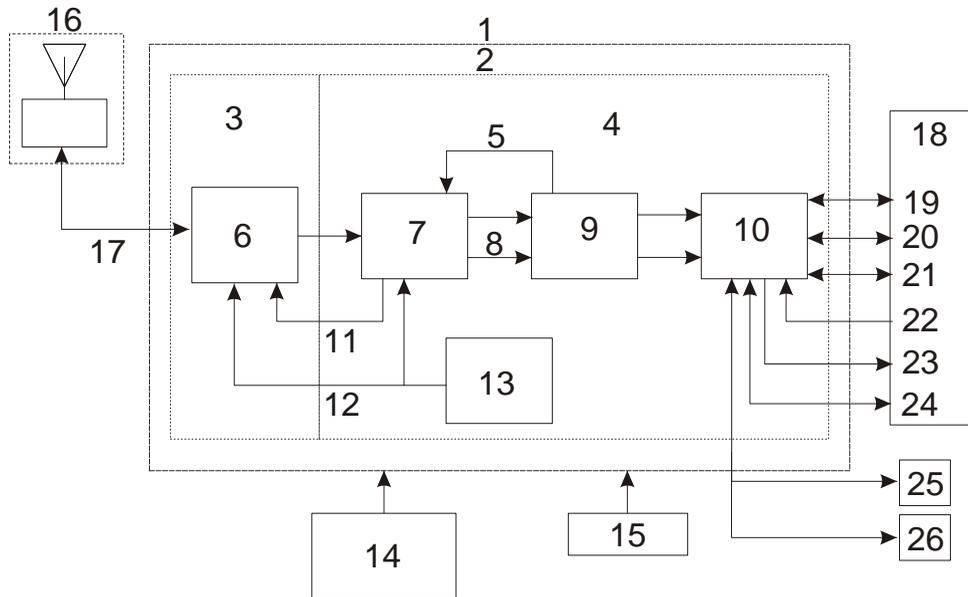

Figure 12: GNSS Receiver System Functional Diagram
The overall system is represented in *Figure 12*. A brief description of the Radio Frequency (RF) and Digital Electronics sections follow the figure. The components listed earlier are also described. Details of installation and set up are provided in *Chapter 3, Installation and Setup* on *Page 37*.